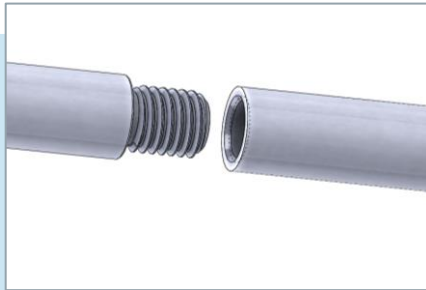

**Figure 2.** Install a Clamp on a Rod
1. Find a Rod (A) that does not have a threaded hole on one end. Place it into a Clamp (B) and tighten the Thumbscrew to secure the Rod in place (Figure 2).